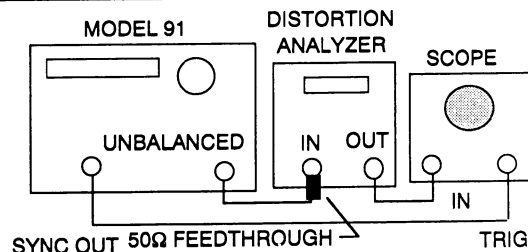

Figure 4-4. Sine Wave Adjust Setup
1. The Model 91 display reads **R33, 97, USINE HHH** where XXX represents the internal value of the VSINE dc control voltage. Connect the test equipment as shown in figure 4-4.